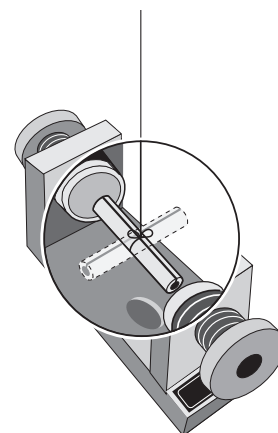

Figure 12
② Follow the same procedure for the aluminum (paramagnetic) sample except, instead of initially aligning the tube with the magnetic field, put the aluminum tube perpendicular to the field at the beginning of the demonstration to show that it will rotate into the equilibrium position which is parallel to the magnet's field lines (Figure 12). Then rotate the magnet to show that the aluminum is locked into the equilibrium position, aligned with the poles of the magnet.